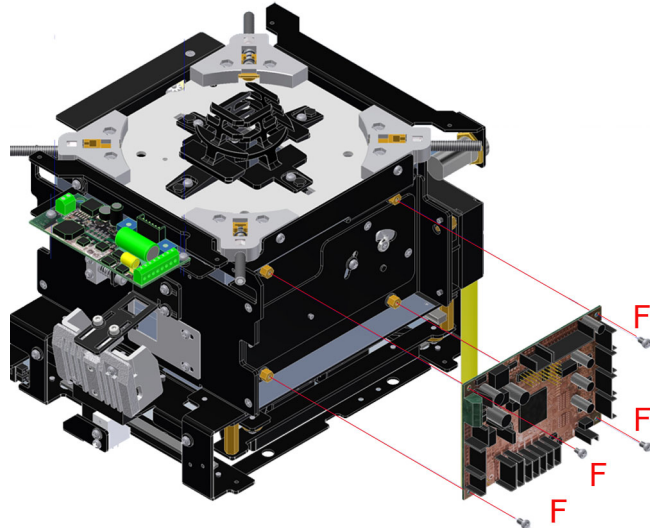

Fig. 1
- Remove the three screws on the upper partition, see **Fig. 1**.